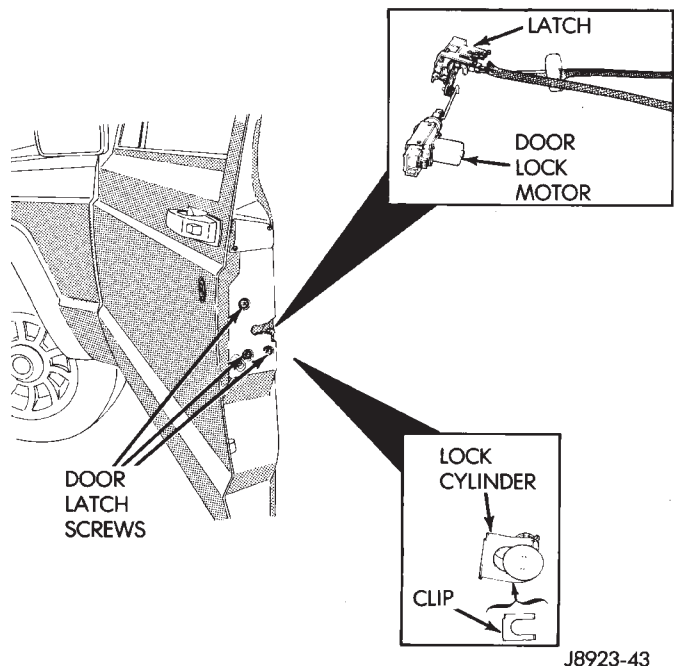

Fig. 75 Door Latch Retaining Screws
- (2) Remove the door trim panel and waterdam.
- (3) Remove the door external handle from the door outer panel.
- (4) Remove the door latch screws (Fig. 75).